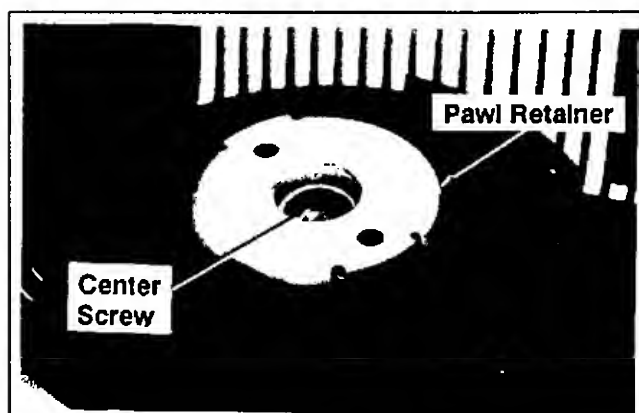

Figure 7-5. Center Screw And Pawl Retainer.
2. Remove the center screw and pawl retainer. See Figure 7-5.